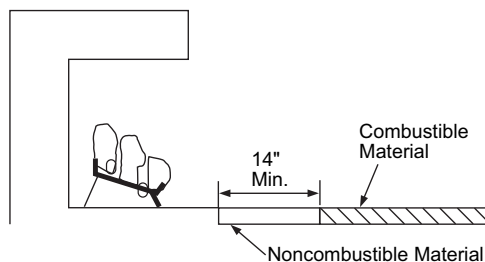

Figure 8 - Minimum Fireplace Clearances If Installed at Floor Level
- If installing appliance on the floor level, you must maintain the minimum distance of 14" to combustibles (*see Figure 8*).